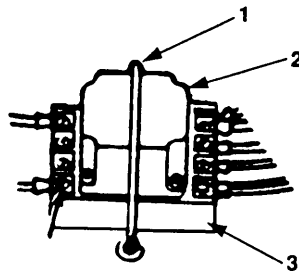

Figure 4-47. Safety Relay (K1) Replacement .
- a. Remove retainer clip (figure 4-47, 1) from relay (2).
- b. Remove relay (2) from socket (3).
- a. Install relay (2) into socket (3).
- b. Secure relay (2) by lifting retainer clip (1) over relay (2).